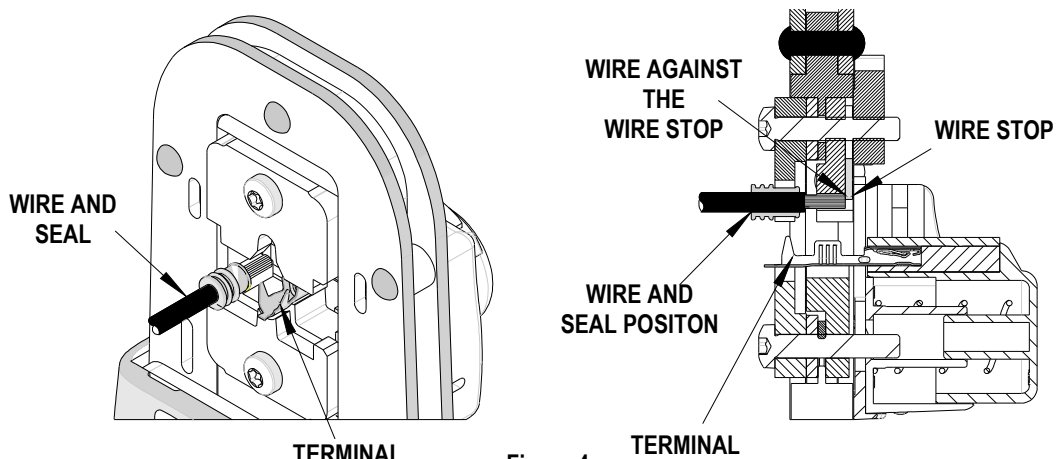

Figure 4
5. With the hand tool open, insert the properly stripped wire and seal under the punches into the lower part of the upper tooling, until the wire is against the wire stop. See Figure 4.